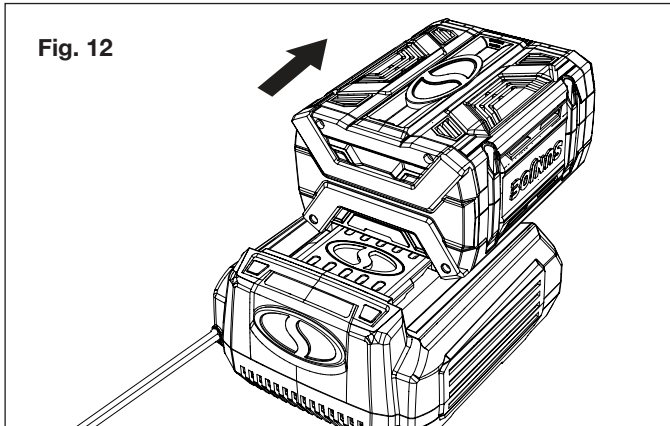

Fig. 12
6. When charging is complete, remove the battery from the charger by pulling the battery backward to unlock it from the charger (Fig. 12).